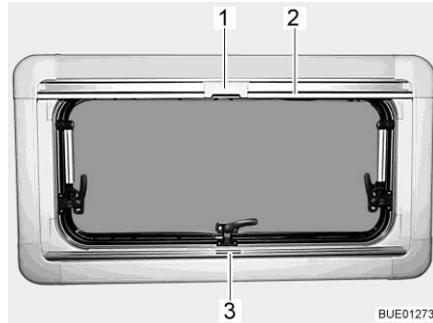

Fig. 118 Hinged window
Closing: ■ Grip the Roman shade in the centre of the holding bar (Fig. 118,3), pull it from the bottom to the top and then release it at the desired height. The Roman shade will stay at this height.
Closing: ■ Pull the insect screen down using the holding bar (Fig. 118,2), until it touches the holding bar of the Roman shade (Fig. 118,3).
■ Clip the catch (Fig. 118,1) on the insect screen into the handle of the Roman shade.
Opening: ■ Push the catch (Fig. 118,1) on the insect screen inwards.
■ Move the insect screen back slowly on the holding bar (Fig. 118,2).